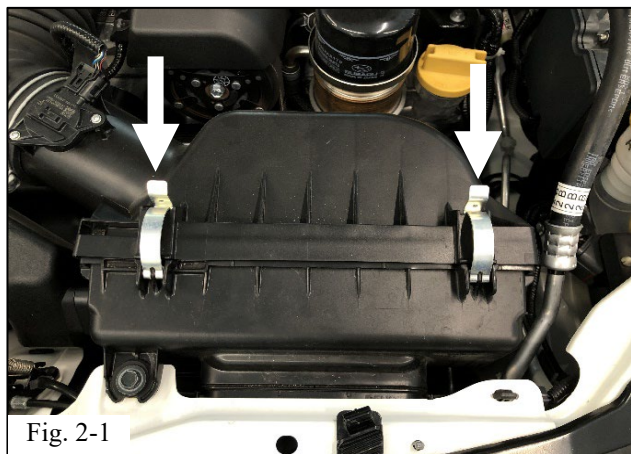

Fig. 2-1
- (b) Unlatch the two air filter lid clips (Fig. 2-1).